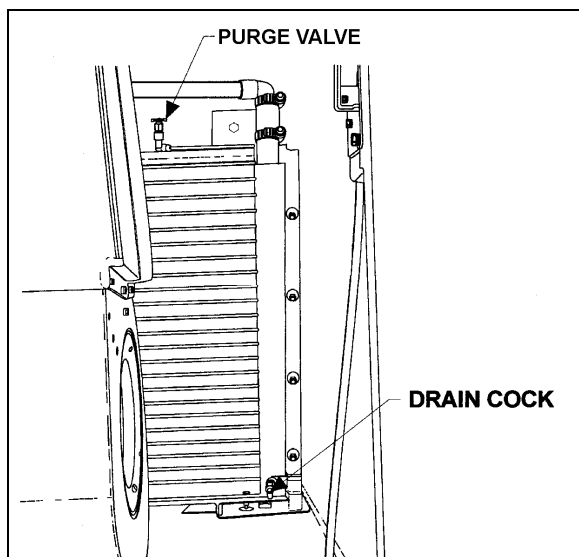

FIGURE 43: PASSENGER'S UNIT HEATER CORE (H3 COACHES) 22229
4. Open drain cock in bottom of heater core, then open purge valve located on top of heater core (figure 43) in order to allow air to enter while draining.